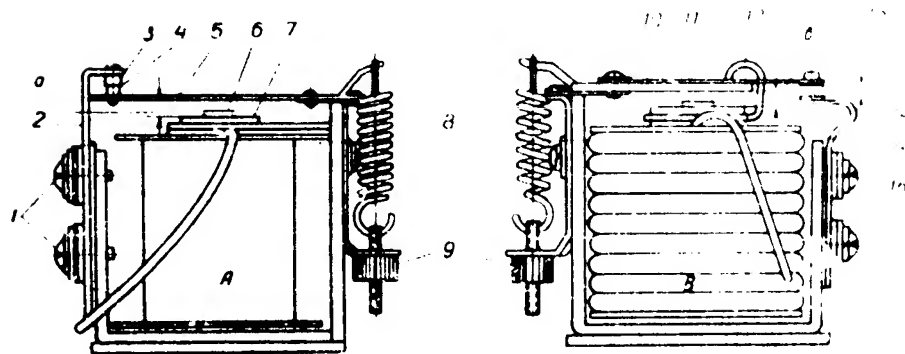

Fig. 39. Checking PP20 Current and Voltage Regulator Clearances
Check the armature to core clearances on the voltage regulator and current limiting regulator (Fig. 39). The clearance should be 1.4 to
1.5 mm with closed contacts. Check the clearance as shown in Fig. 39. To adjust the clearance loosen the screws and move the contact bracket.